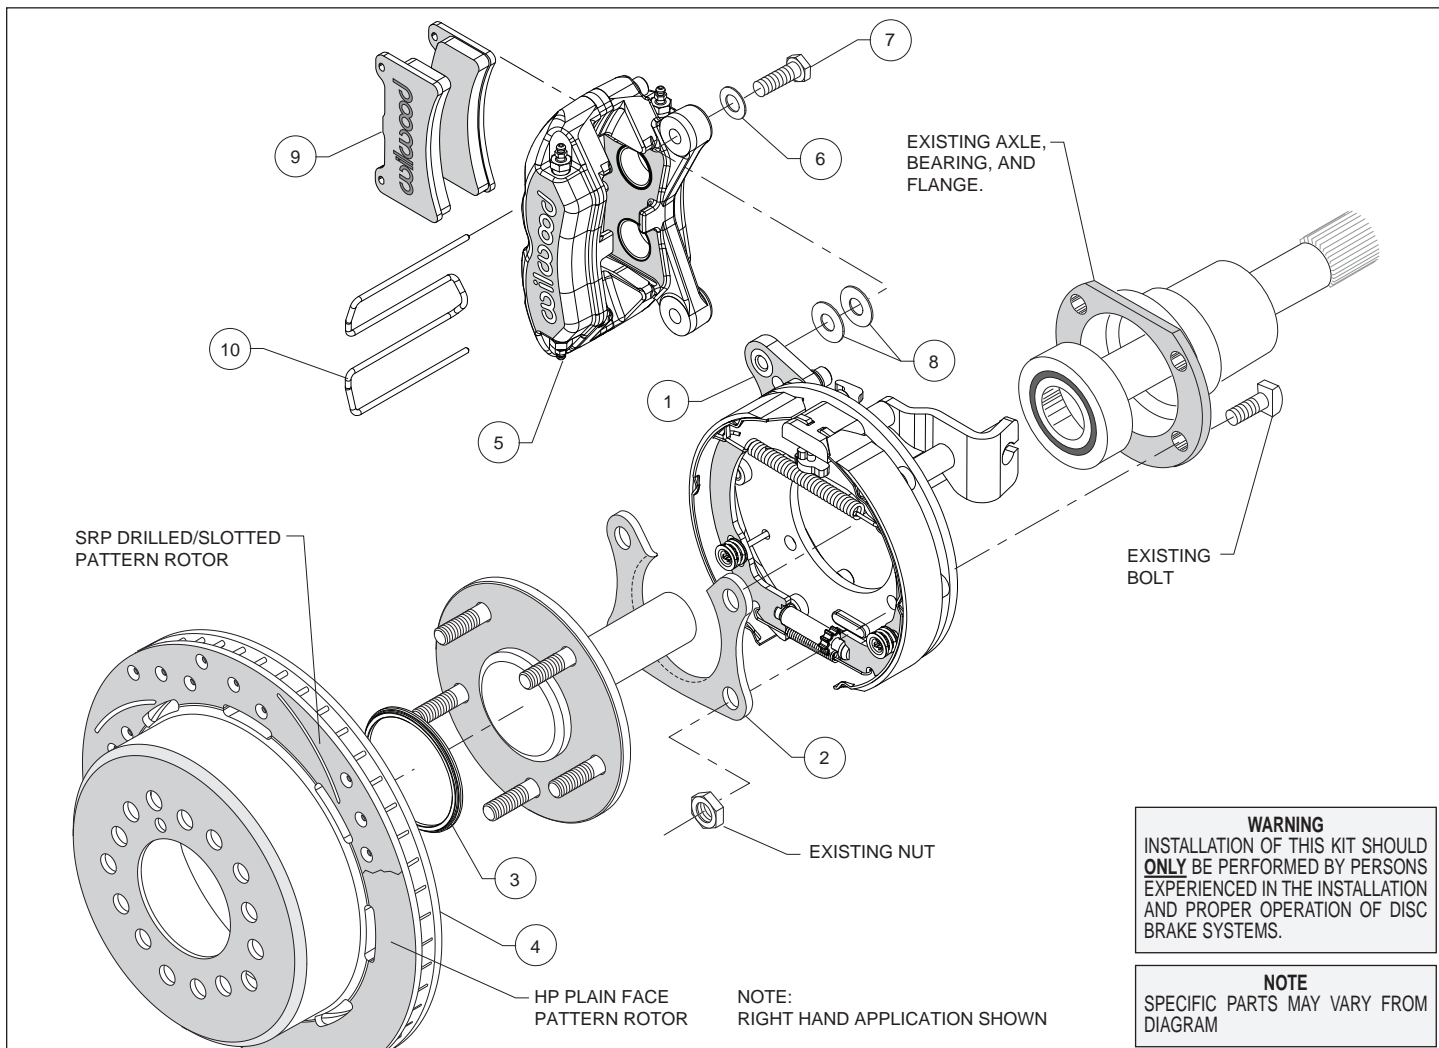
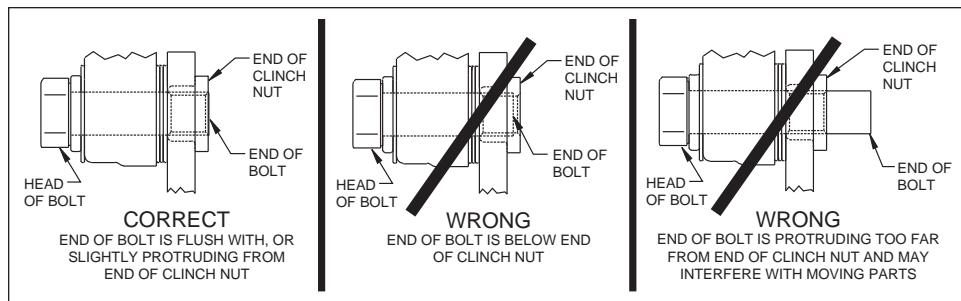

Figure 1. Typical Installation Configuration
Figure 5. Clinch Nut Engagement Diagram
Assembly Instructions (numbers in parenthesis refer to the parts list, and Figure 1 on the preceding pages): **CAUTION:** All mounting bolts must fully engage clinch nuts. Be sure to check that all bolts are either flush or protruding through flanged side of clinch nut after shimming, Figure 5.
- Orient the bracket assembly (1) as shown in Figure 1 and Photo 1 and slide it onto the axle. Insert the axle and bracket into the axle housing. Ensure that the bracket assembly backing plate fits flush against the axle housing flange.
- Install the bearing retainer (2) with the opening pointing upward and the lip facing inward (toward the bearing), as shown in Figures 1 and 4, and Photo 2. Secure retainer and bracket assembly to the axle housing flange using the Original Equipment Manufacturer (OEM) bolts and nuts, Figure 1. Apply red *Loctite*® 271 to the OEM bolt threads and torque to OEM specifications.
•Slide the rotor registration adapter (3) onto the axle register on the axle flange with the smaller O.D. facing toward the rotor/hat (4), Photo 3. Align the correct hole pattern in the rotor/hat with the stud pattern on the axle flange and slide into place, Figure 1 and Photo 4. **NOTE:** The rotor/hat must fit flush against the axle flange or excessive rotor run out may result. Install three lug nuts (finger tight) to keep the rotor/hat assembly in place while continuing with the installation. **NOTE:** Some OEM and after market axles come with stud sizes larger than 0.50" diameter. Verify stud size and have a qualified machine shop drill the bolt circle of the hat/rotor to the correct stud size, if necessary.
•**NOTE:** Please reference the caution statement at the beginning of the assembly instructions. Mount the caliper (5) onto the caliper mounting bracket (1) using bolts (7) and washers (6), as shown in Figure 1. Initially place two .035" thick shims (8) on each bolt between the caliper and the bracket, Photo 5. Temporarily tighten the mounting bolts and view the rotor (4) through the top opening of the caliper. The rotor should be centered in the caliper, Photo 6. If not, adjust by adding or subtracting shims between the bracket and the caliper. Always use the same amount of shims on each of the two mounting bolts. **NOTE:** The end of each bolt must be flush with or slightly protruding from the head of the clinch nut, as shown in Figure 5. If necessary place spare shims between washer (6) and caliper mounting ear to achieve the proper clinch nut engagement. Once the caliper alignment and clinch nut engagement are correct, remove the bolts one at a time, apply red *Loctite*® 271 to bolt threads, and torque to 40 ft-lb.